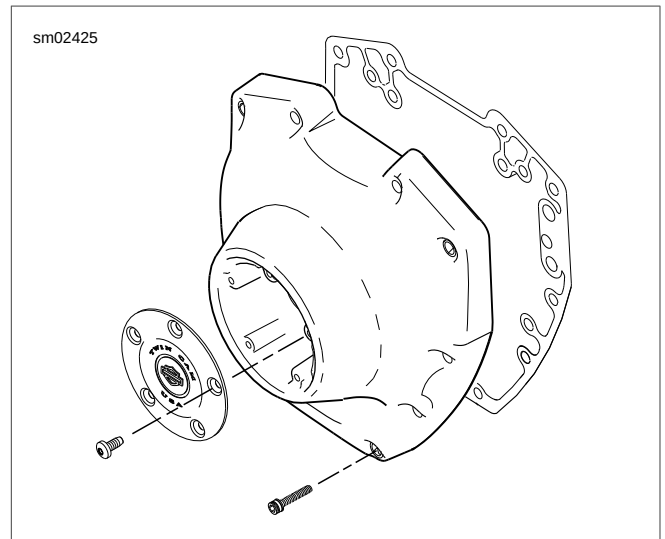

Figure 3-116. Cam Cover Gasket
16. See Figure 3-116. Install cam cover and **new** cam cover gasket.